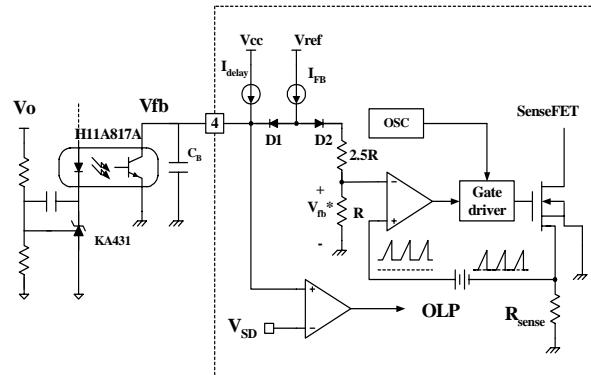

Figure 5. Pulse width modulation (PWM) circuit
2. Feedback Control : FSDM0565R employs current mode control, as shown in figure 5. An opto-coupler (such as the H11A817A) and shunt regulator (such as the KA431) are typically used to implement the feedback network. Comparing the feedback voltage with the voltage across the Rsense resistor plus an offset voltage makes it possible to control the switching duty cycle. When the reference pin voltage of the KA431 exceeds the internal reference voltage of 2.5V, the H11A817A LED current increases, thus pulling down the feedback voltage and reducing the duty cycle. This event typically happens when the input voltage is increased or the output load is decreased.
2.1 Pulse-by-pulse current limit: Because current mode control is employed, the peak current through the Sense FET is limited by the inverting input of PWM comparator (V_{fb}^{*}) as shown in figure 5. Assuming that the 0.9mA current source flows only through the internal resistor (2.5R + R = 2.8 kΩ), the cathode voltage of diode D2 is about 2.5V. Since D1 is blocked when the feedback voltage (V_{fb}) exceeds 2.5V, the maximum voltage of the cathode of D2 is clamped at this voltage, thus clamping V_{fb}^{*}. Therefore, the peak value of the current through the Sense FET is limited.